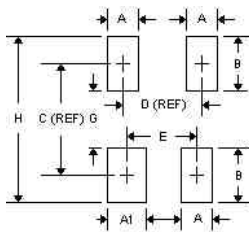

**FIGURE 1**
- Peak Pulse Power: 300 Watts (8/20 μsec, Figure 1)